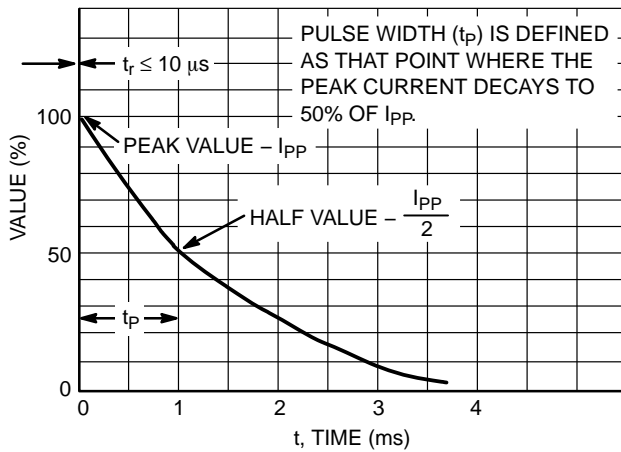
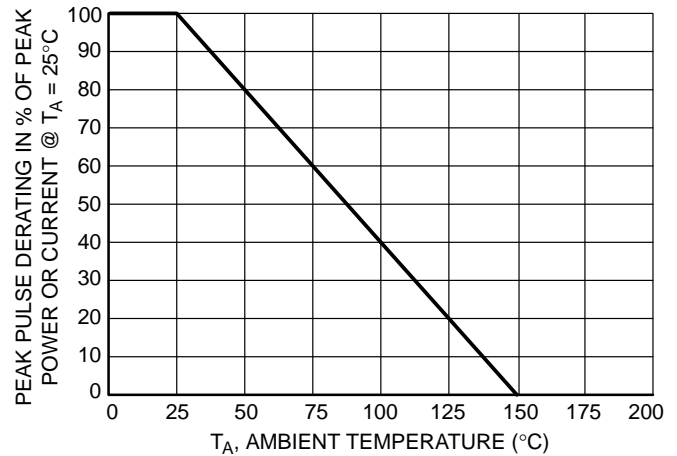

Figure 6. Pulse Waveform
Figure 7. Pulse Derating Curve
1. Non-repetitive current pulse per Figure 6 and derate above  $T_A = 25^\circ\text{C}$  per Figure 7.
6. Surge current waveform per Figure 6 and derate per Figure 7